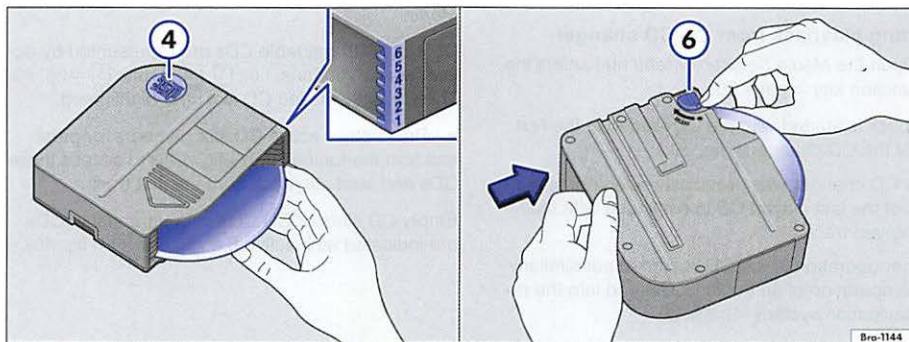

Fig. 38 Loading and removing CDs into and from the magazine.
- Hold the CD magazine with the "disc" ④ label facing upwards $\Rightarrow$ fig. 38.
- To remove CDs, turn the CD magazine over and rotate the release lever ⑥ against the spring force.